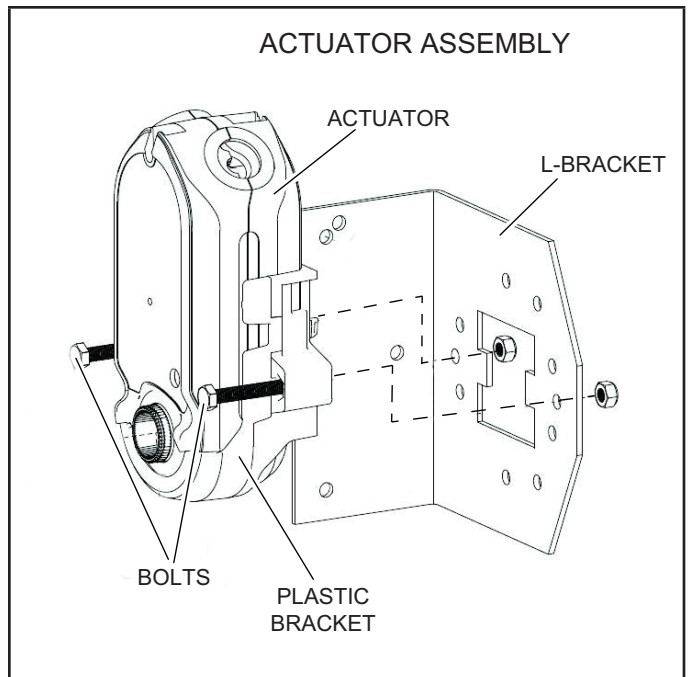

FIGURE 4
- 5 - Align the actuator, plastic bracket, and L-bracket. Fit actuator onto damper shaft and secure to side of economizer. See figure 4 and 5.